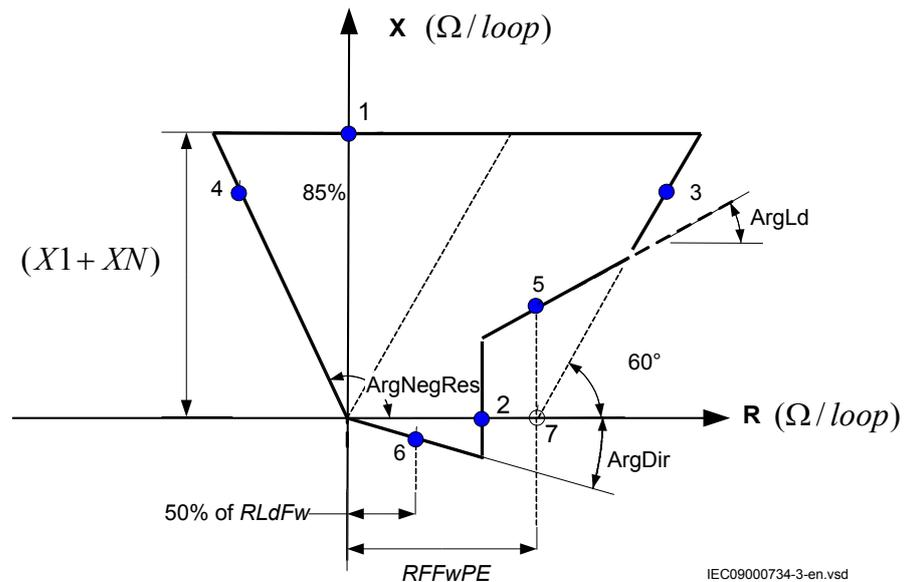

Figure 57: Operating characteristic for phase selection function, forward direction single-phase faults
To verify the settings the operating points according to figures 57 and 58 should be tested. See also tables 23 and 24 for information.
Table 23 is used together with figure 57.
- Apply the fault condition and slowly decrease the measured impedance to find the operate value for of the phase-to-earth loop L3, test point 1, according to figure 57. Compare the result of the measurement with the expected value according to table 23.
- Repeat steps 1 to 2 to find the operate values for the remaining test points according to figure 57 and table 23.